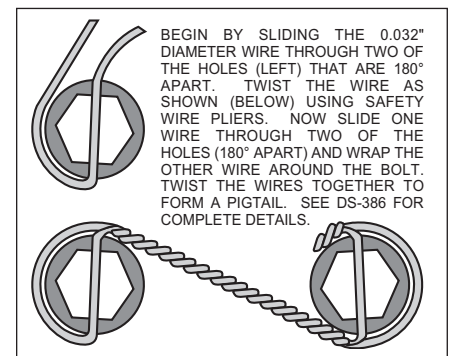

Figure 6. Safety Wire Diagram
- Slide the caliper mounting bracket kit assembly (1) onto the housing flange and then insert the axle assembly through the center hole of the caliper mounting bracket assembly (1). Align the bearing retainer (2) with the four holes inside the bracket assembly (1) and secure using the stock Original Equipment Manufacturer (OEM) bolts and nuts. Stock OEM hex nuts that retain the caliper mounting bracket assembly (1) and retainer (2) should be on the wheel side of the bracket. Apply red *Loctite*® 271 to the stock OEM bolt threads and torque to OEM specifications. Make sure the heads of the caliper mounting bracket assembly (1) insert nuts are **FACING OUTWARD TOWARDS THE WHEEL**.
- Align the correct hole pattern in the rotor (3) with the stud pattern on the axle flange. **NOTE:** Some OEM and after market axles come with stud sizes larger than 0.50" diameter. Verify stud size and have a qualified machine shop drill the bolt circle of the rotor to the correct stud size, if necessary. Slide the rotor (3) over the wheel studs covering the mounting bracket assembly (1) and against the axle flange face.
- NOTE:** Please reference the caution statement at the beginning of the assembly instructions. **WITH THE BLEED SCREWS POINTING UP**, mount the caliper (4) over the rotor (3) and onto the caliper mounting bracket (1) using lock washers (5) and mounting bolts (6). View the rotor through the top opening of the caliper. The rotor should be aligned in the center of the caliper. If not, adjust the caliper by using 0.032 inch shims (7) by placing them between the caliper mounting bracket (1) and the caliper (4). Apply red *Loctite*® 271 to the mounting bolt threads (6), torque to 30 ft-lb. Safety wire the caliper mounting bolts (6) using standard 0.032 inch diameter stainless steel safety wire as shown in Figure 6. Please refer to Wilwood's data sheet DS-386 (available at [www.wilwood.com/pdf/ds386.pdf](http://www.wilwood.com/pdf/ds386.pdf)) for complete safety wire installation instructions.
- Position the Wilwood disc brake pads (8) into the caliper (4) and fasten with cotter pin (9). Steel backing plate side of brake pad should face the caliper pistons.
- Before final installation of the wheel, install a couple of lug nuts and adjust the parking brake shoes outward (using a drum shoe adjustment tool available at your local auto parts store) while spinning the rotor/hat (3) until a slight drag is felt again the hat/drum.